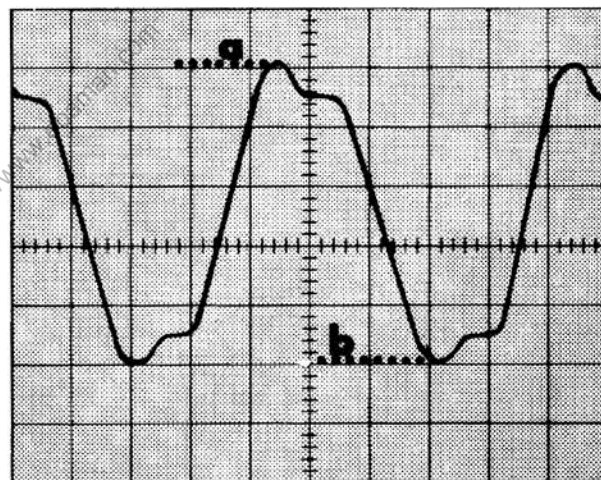

Fig. 2-3. Measurement of peak-to-peak signal amplitude.
In measuring signal amplitudes it is important to remember that the width of the trace may be an appreciable part of the overall measurement. This is particularly true when measuring signals of small amplitude. All measurements should be consistently made from the same part of the trace--the top, center or bottom. If the center of the trace is used for one reading, it should be used for all subsequent readings. Notice that points "a" and "b" in Figure 2-3 correspond to the center of the trace.
5. The final number is the voltage difference between the maximum and minimum peaks of the input signal. DEFLECTION x VOLTS/CM x ATTENUATION = VOLTAGE. For example, in Figure 2-3, the vertical deflection between "a" and "b" is 4.0 cm. If the AC-DC switch is at AC, the VOLTS/CM switch at .5 (black numbers), and the signal is applied through a 10X probe, the voltage calculation would be: (4.0 cm) x (0.5 VOLTS/CM) x (10) = 20.0 volts.